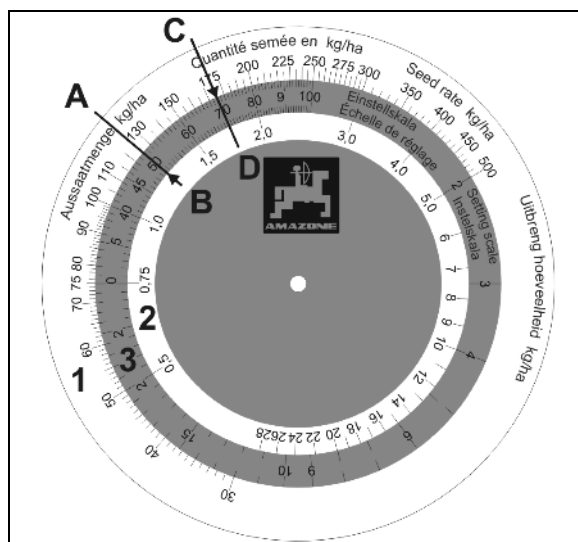

Fig. 69
The disc rule consists of three scales: One outer white scale (Fig. 69/1) for all seed rates above 30 kg/ha and an inner white scale (Fig. 69/2) for all seed rates below 30 kg/ha. On the central, coloured scale (Fig. 69/3) gearbox settings from 1 to 100 are printed.
- Align the seed rate **125 kg/ha** (Fig. 69/A) and the "gearbox setting position **50**" (Fig. 69/B) on the disc rule.
- Now read off the disc rule the gearbox setting figure for the desired seed rate of **175 kg/ha** (Fig. 69/C). In our example that is the "gearbox setting position **70**" (Fig. 69/D).